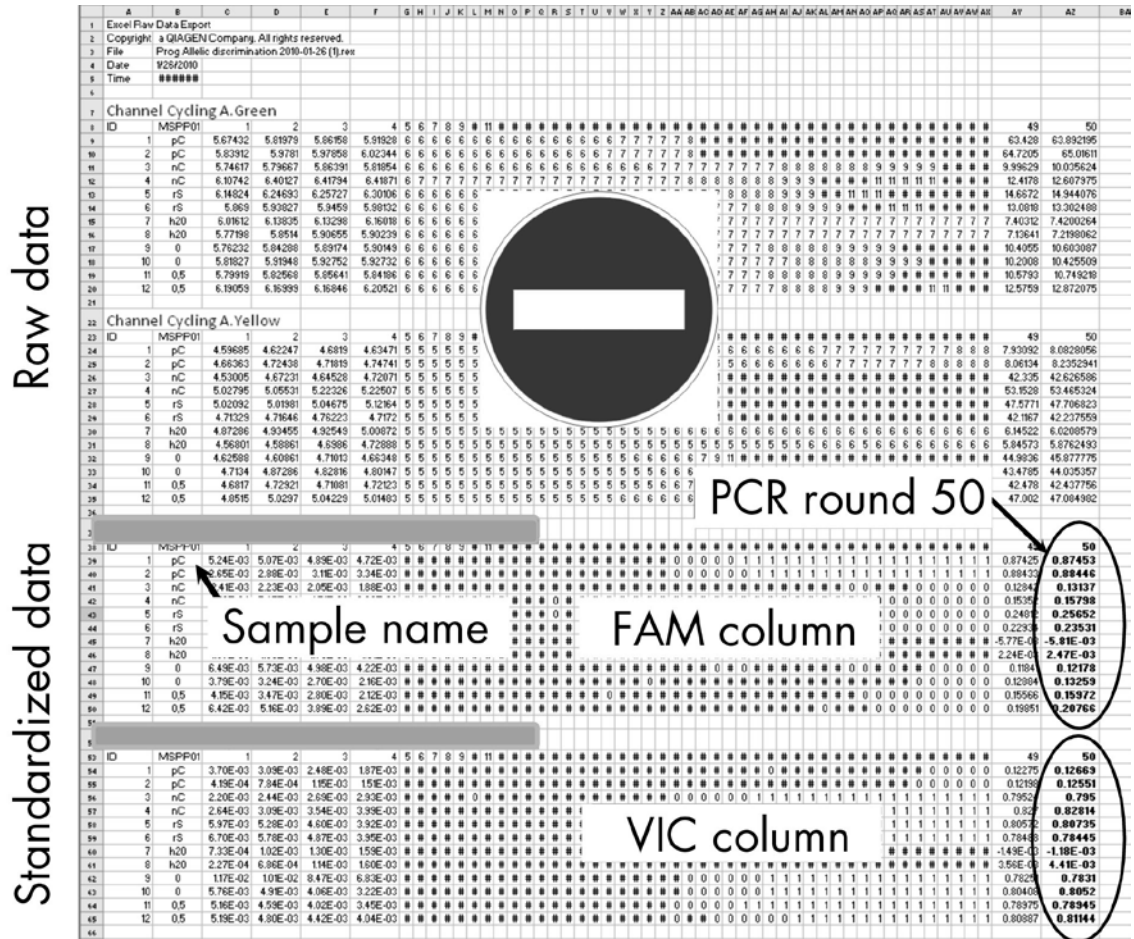

Figure 11. Example of results, shown in Excel file.
21. Open the text file in Excel and select column A. Click “Data”, then “Convert”, and “Next”. Select “Comma” and then click “End”. The results will appear as shown in Figure 11.